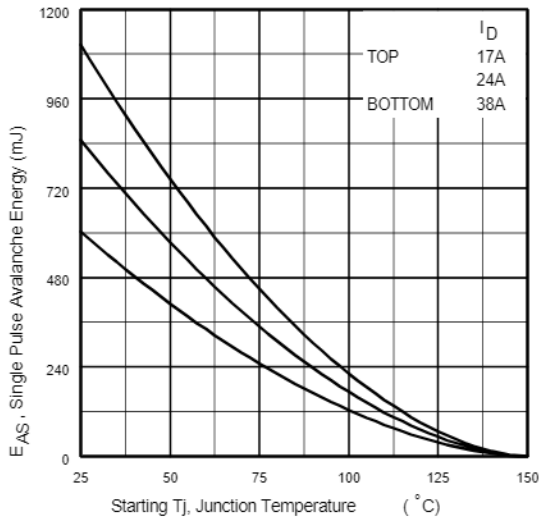

Fig 12a. Maximum Avalanche Energy Vs. Drain Current
- Ⓜ Starting $T_J = 25^\circ\text{C}$, $L = 0.84\text{mH}$, $R_G = 25\Omega$, $I_{AS} = 38A$, (See Figure 12a)